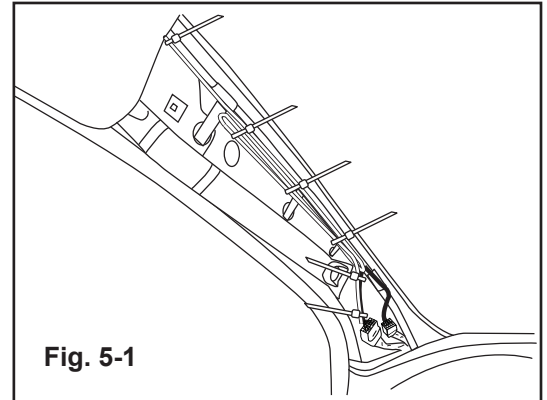

Fig. 5-1
- a) Bundle excess EC harness wires with (5) additional wire ties. (Fig. 5-1)